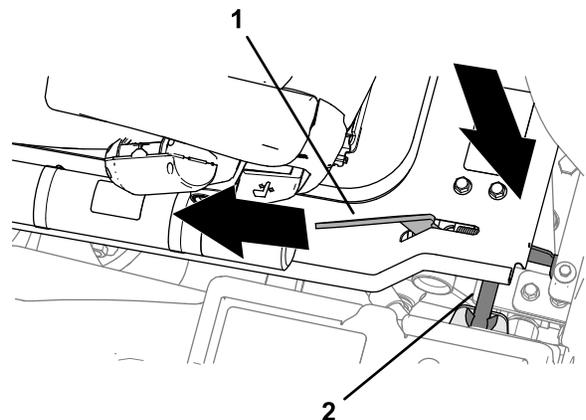

Figure 45
2. As the platform nears the fully lowered position, move the platform-latch handle (Figure 45) towards the front of the machine.